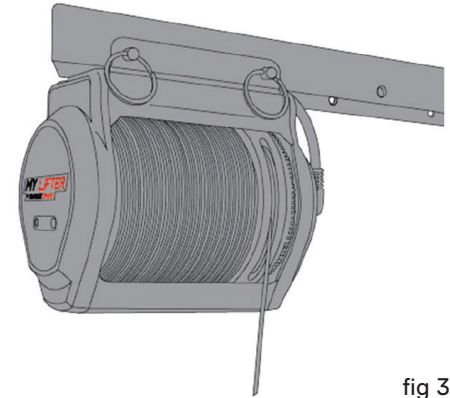

fig 3.6
16. Insert the two included quick-release pins through the holes in the MyLifter frame and the Smart Track. Make sure the pins go all the way through both sides of the MyLifter frame and Smart Track. Repeat this for each MyLifter that you are installing. (fig 3.6)